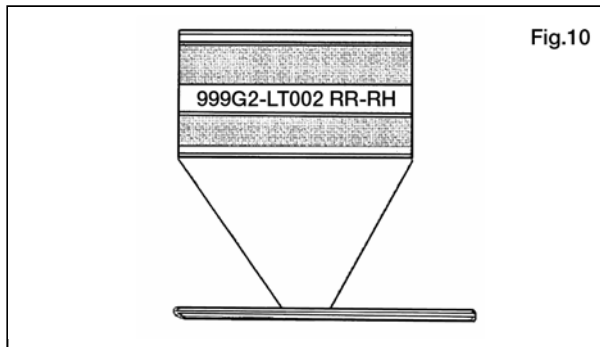

Fig.10
- a) Identify the rear, right body side molding. (Fig. 10)